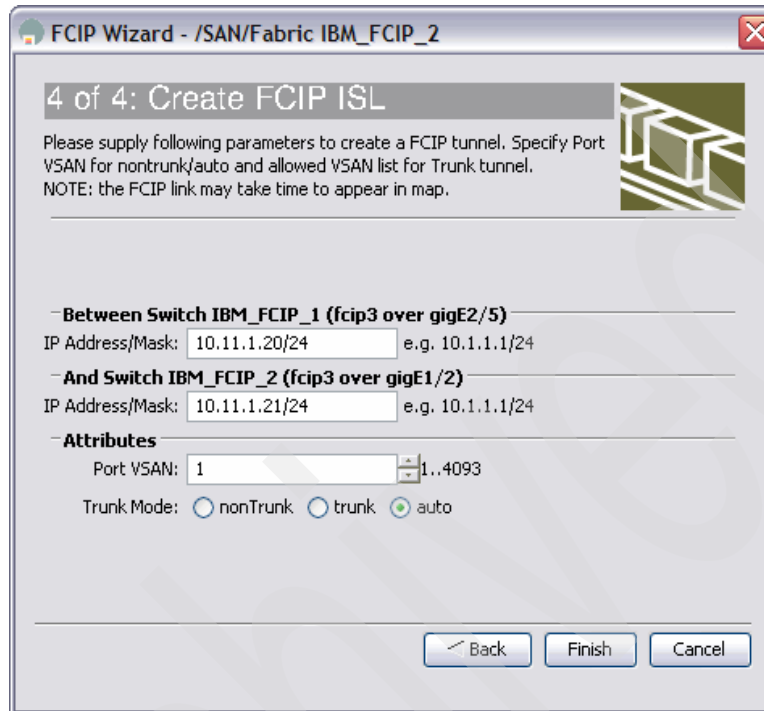

Figure 12-19 FM FCIP Wizard
- b. We configure the IP addresses and trunk behavior for this second link and click **Finish** (Figure 12-19).